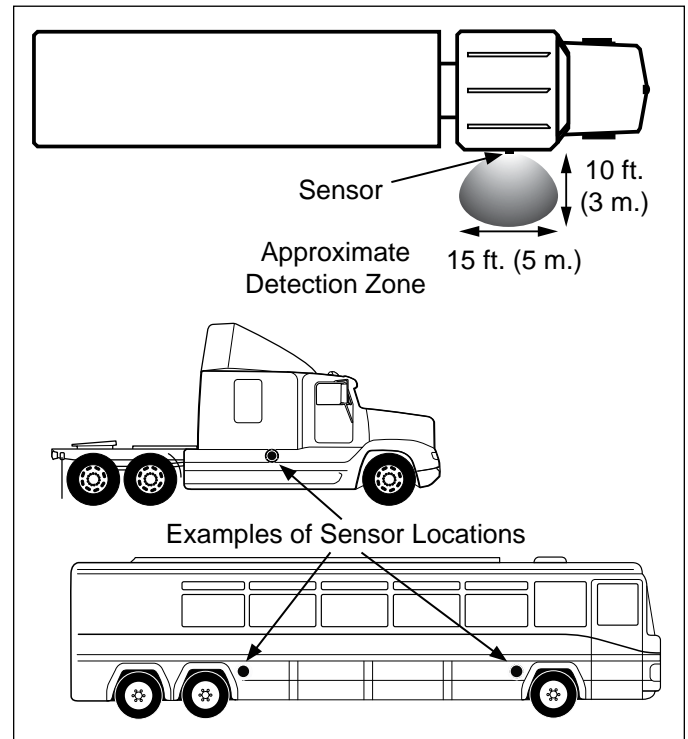

FIGURE 2 - BENDIX™ BLINDSPOTTER® RADAR SENSOR DETECTION ZONE AND EXAMPLE LOCATIONS
Used in conjunction with rear view mirrors and other instrumentation to maintain safe operation of the vehicle, the radar sensor(s) provide an approximate ten foot by fifteen foot detection zone. See Figure 2.
See *Figure 2*. The effective range is approximately ten (10) feet out from the vehicle and the detection zone extends seven and a half feet forward and backward from the sensor.